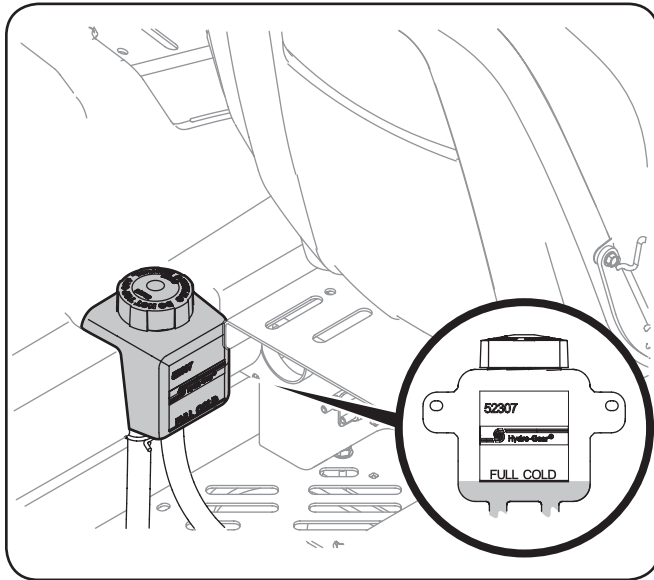

Figure 6-3
1. Pivot the operator's seat forward and clean the reservoir cap and the area around the cap to prevent debris from contaminating the transmission oil. See Figure 6-3.
2. Turn the reservoir cap counterclockwise to remove, then check the oil level in the reservoir. Oil should be visible at the bottom of the cup, but the oil level must **NOT** be above the "FULL COLD" line. See Figure 6-3. **DO NOT FILL THE RESERVOIR.**